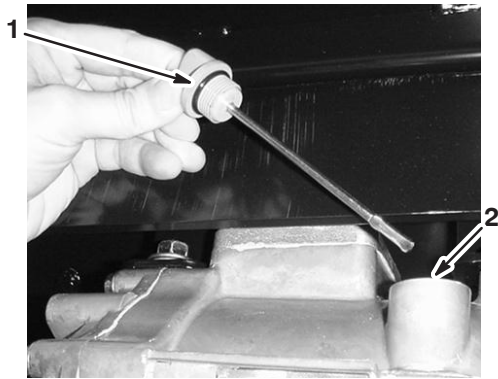

Figure 9
2. Remove the transaxle dipstick and wipe it with a clean rag (Fig. 9).